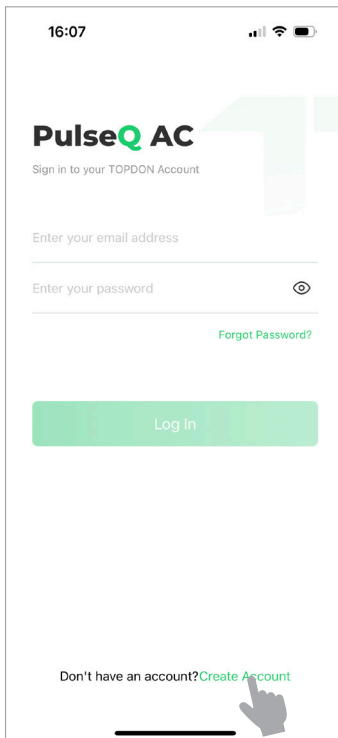

Fig. 5-1
1. Open the app. Tap "Create Account" at the bottom of the screen. (See Fig. 5-1)